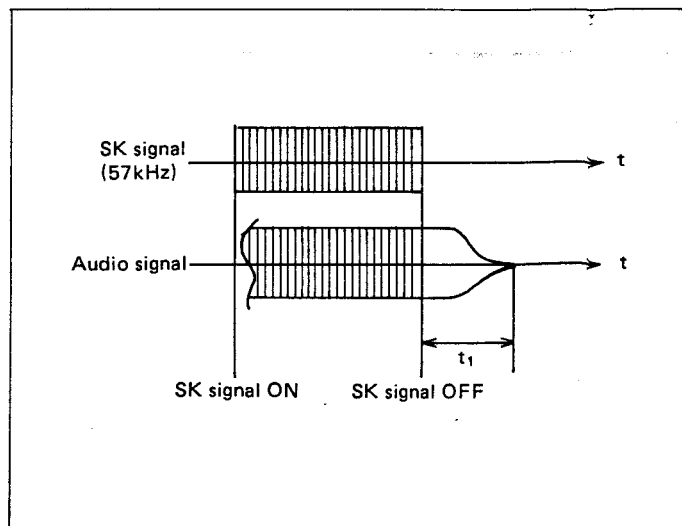

Figure 13-2
Then, the V.C.O. stops to operate so that the audio signal becomes alive whether pin ⑨ is opened or grounded. The electrolytic capacitor C201 in connection with pin ⑨ is for the purpose to decide the muting time constant ( $t_1$ ) — just when the SK signal turns "off" (see Fig. 13-2). The output of pin ⑦ becomes "Low" level when given SK signal and "High" level when not given SK signal, and it also becomes "High" level when the V.C.O. ceases to operate. Pin ⑤ is the output pin where the BK and DK signals come out.